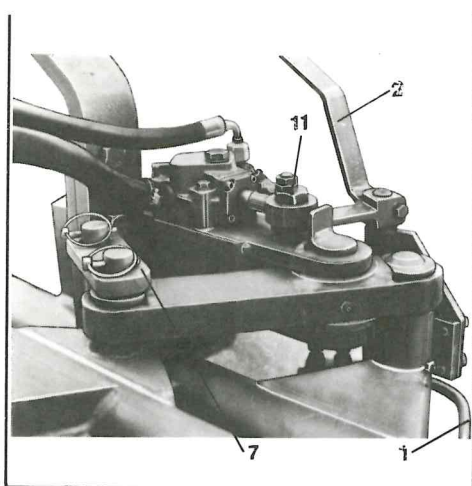

FIG. 7
SISTEMI DI LAVORAZIONE DELLA MACCHINA (fig. 7)
Tale operazione si esegue come al punto "A", agendo sul tastatore 1 e inserendo successivamente la piastrina 7. (fig. 7).
- a) as a normal rototiller: set the machine to the run-end position acting on Tracer 1 or on manual control bar 2 (fig. 7)
For Mod. Z 130-155 C, act on eccentric pin 11 (fig. 7).
While carrying the machine, it is suggested to block the cross-wiser by inserting release plate 7 (fig. 7), as above "A" procedure.